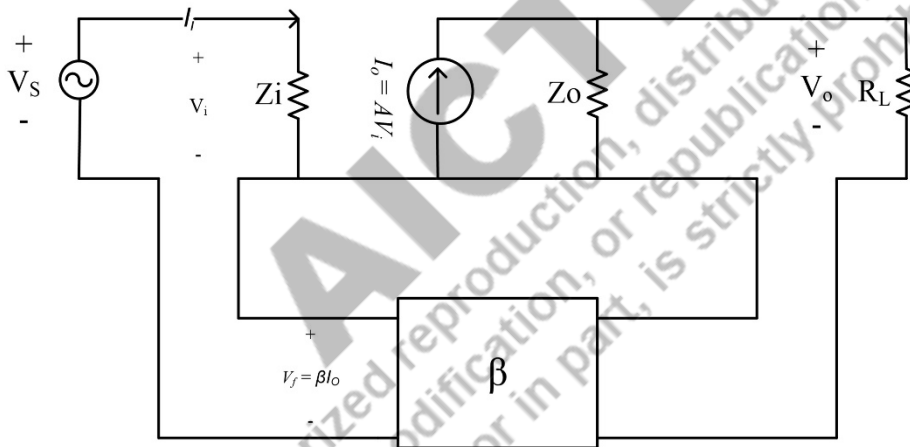

Fig. 3.7. Current-Series feedback connection
**Current-Series Feedback:** The output impedance with current-series feedback can be determined by applying a signal  $V$  to the output with  $V_s$  shorted out, resulting in a current  $I$ , the ratio of  $V$  to  $I$  being the output impedance. Fig. 3.7 shows a more detailed connection with current-series feedback. For the output part of a current-series feedback connection shown in Fig. 3.7, the resulting output impedance is determined as follows. With  $V_s = 0$ ,